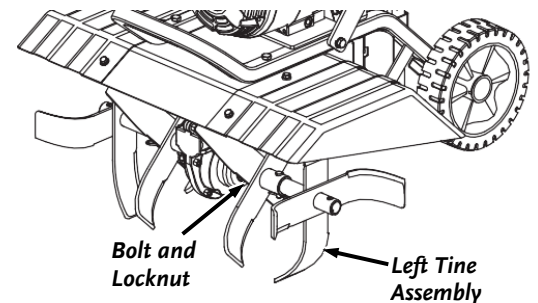

Figure 22
2. Remove the Bolt and Locknut securing the left side Tine Assembly to the Shaft using two 16mm Wrenches (**Figure 22**).